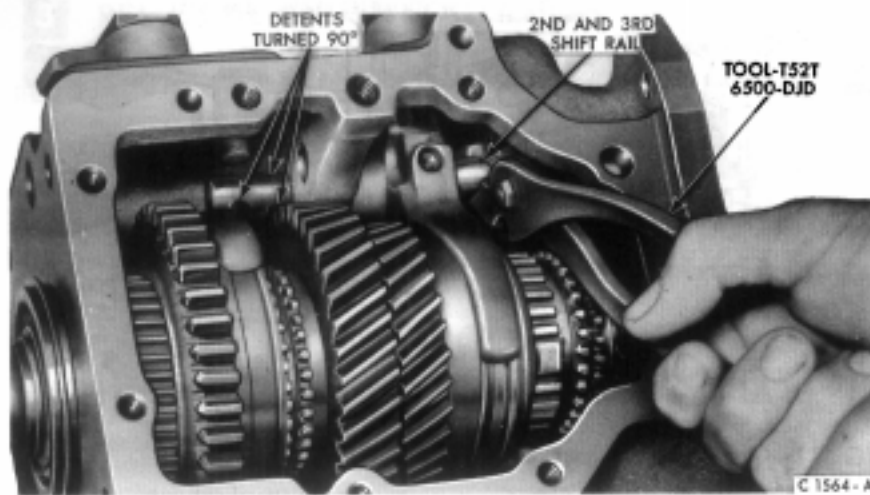

FIG. 13—Rotating Second and Third Speed Shift Rail
13. Move the second and third-speed shift fork to the second speed position to gain access to the set screw. Remove the set screw from the fork. Rotate the shift rail 90° as shown in Fig. 13.